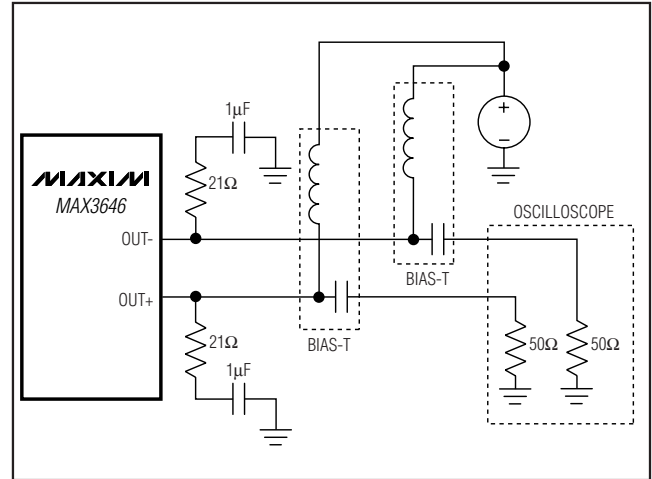

Figure 2. Test Circuit for Characterization
**Note 1:** AC characterization is performed using the circuit in Figure 2 using a PRBS  $2^{23} - 1$  or equivalent pattern.